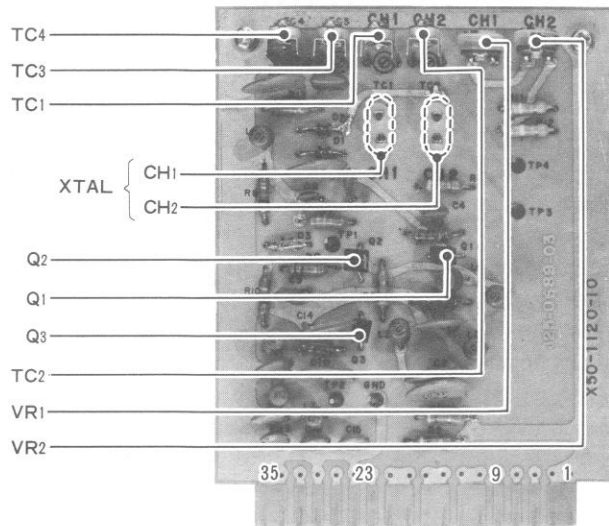

FIGURE 32. FIX Board
5.12 FIX (Fixed Channel Oscillator) BOARD (X50-1120-10) (See Figure 32)